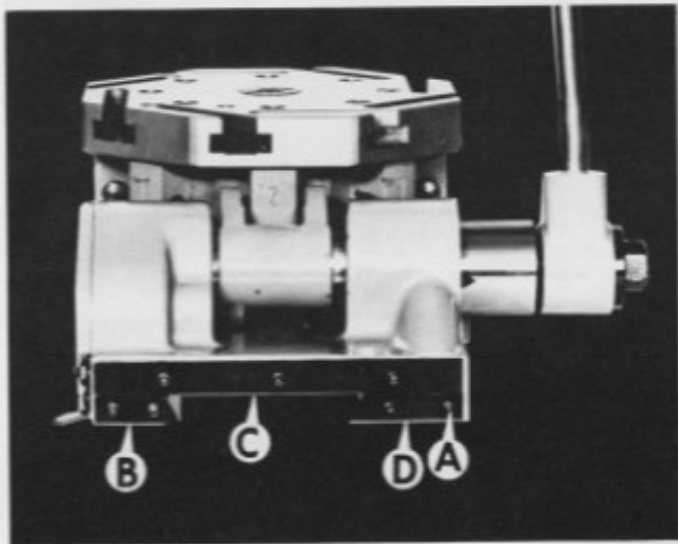

Figure 73 — Doves-tail Wipers for Cross Slide
2. Remove seven screws "A", Figure 73, and three wipers "B", "C" and "D".
- Replace wipers "B", "C" and "D", Figure 73. Set wipers .0015" above dovetail surfaces.